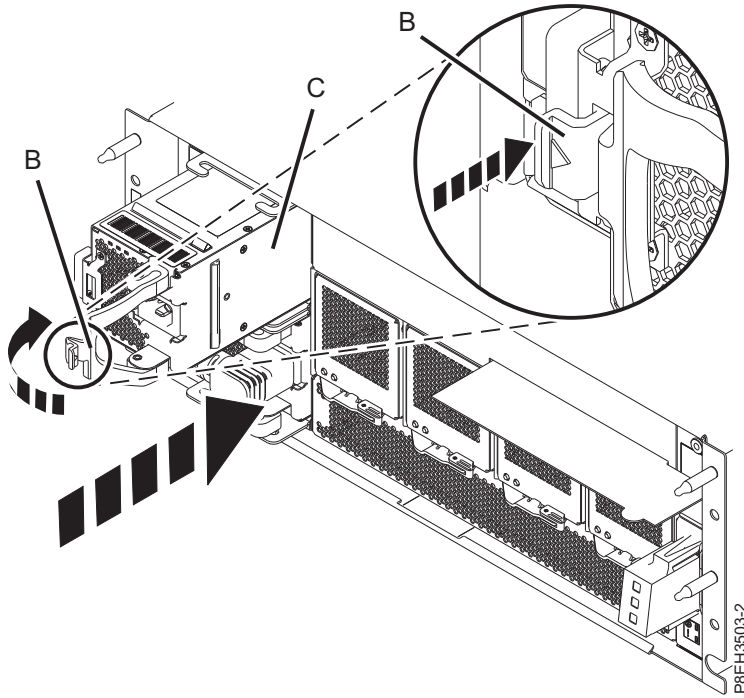

Figure 6. Replacing the power supply in the EMX0 PCIe3 expansion drawer
2. Holding the handle **(B)** and by using your hand to support the bottom of the power supply **(C)**, align the power supply with the power supply slot and slide it into the bay. See Figure 6.
3. Rotate the handle **(B)** and then push it in to lock it in place, as shown in Figure 6.